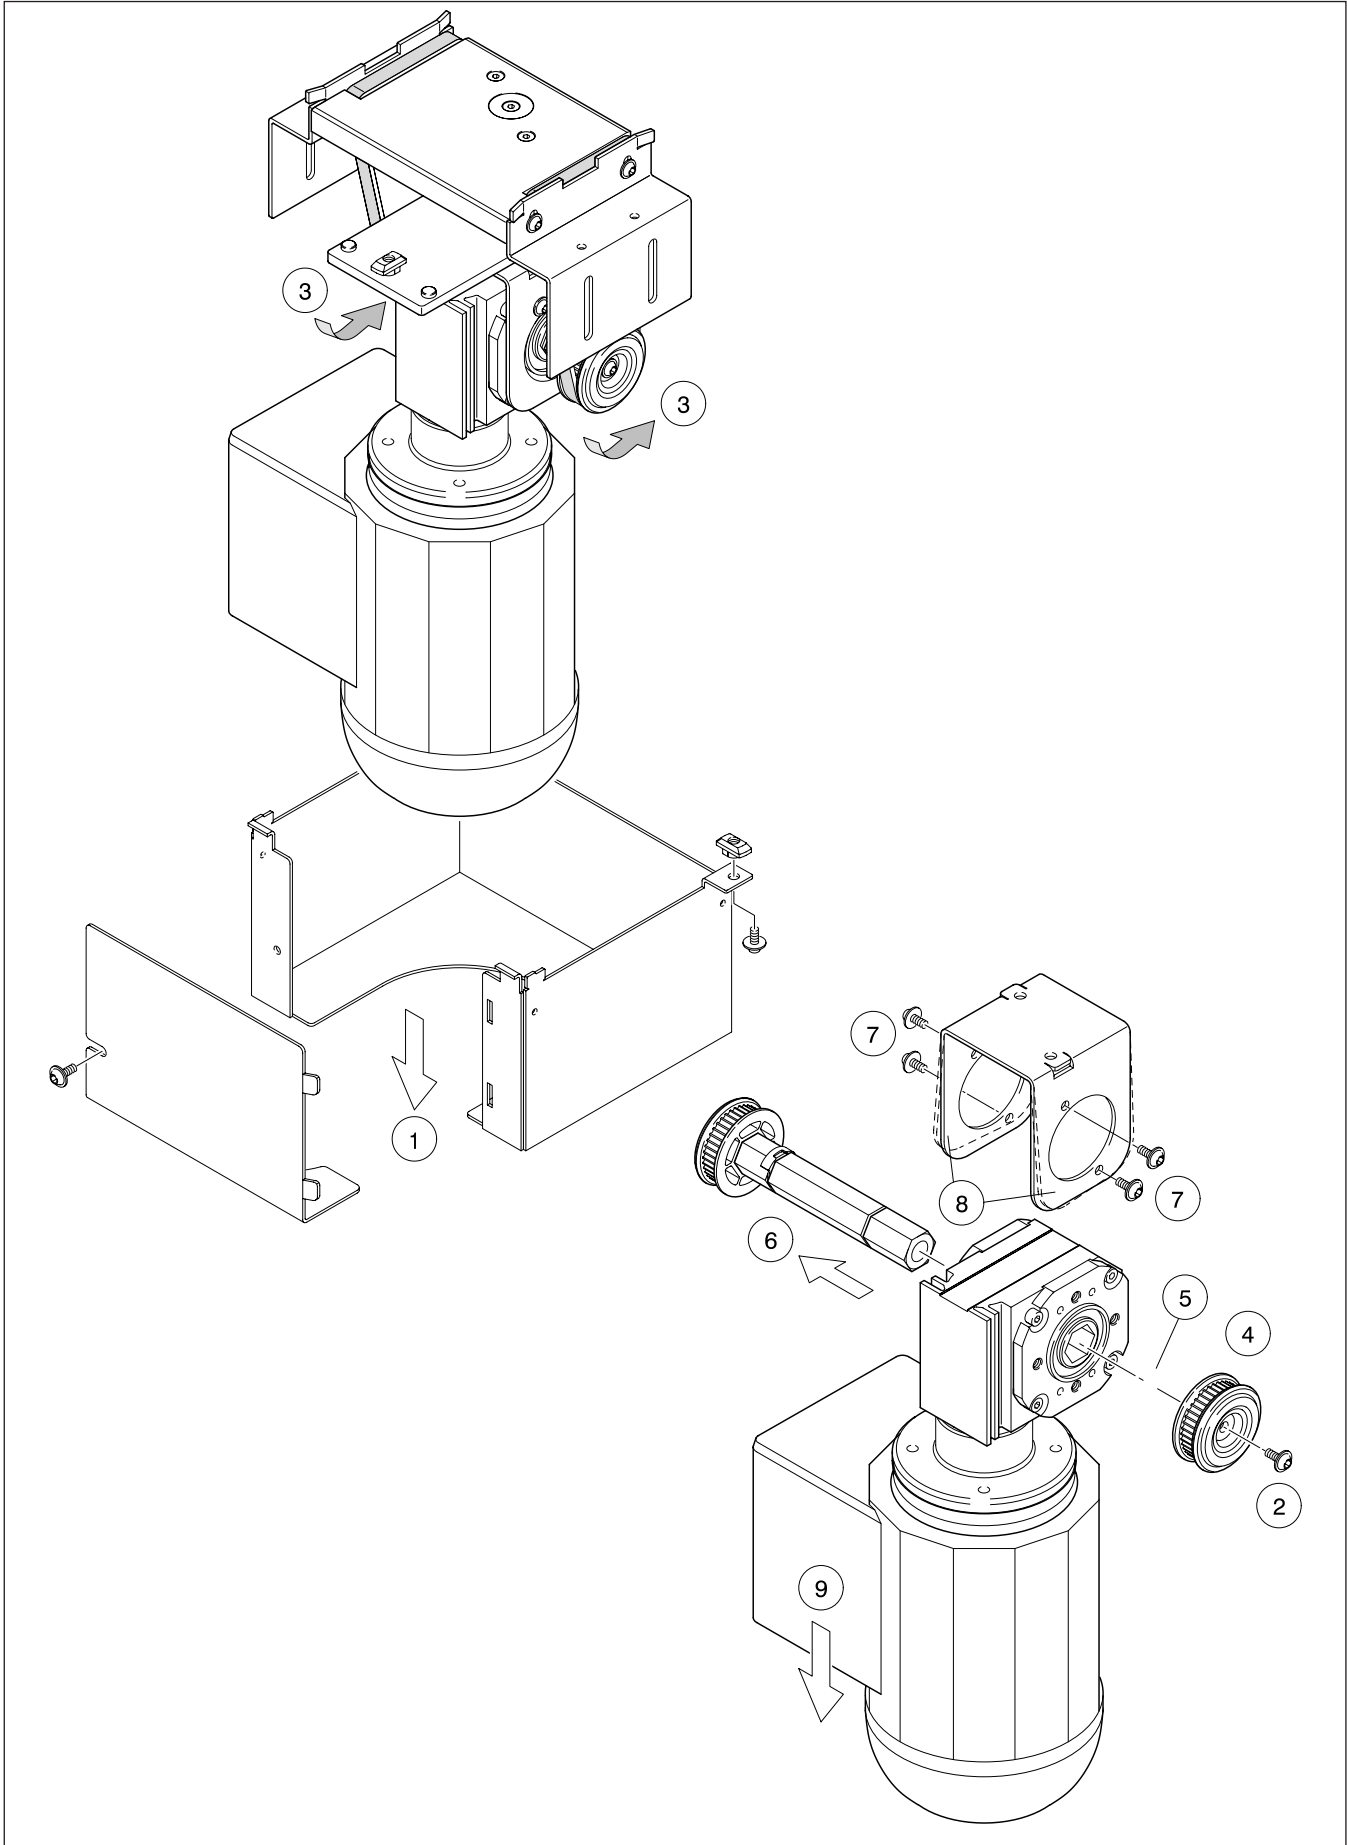

Fig. 21
10.4.3 Replacing the gear (Fig. 21)